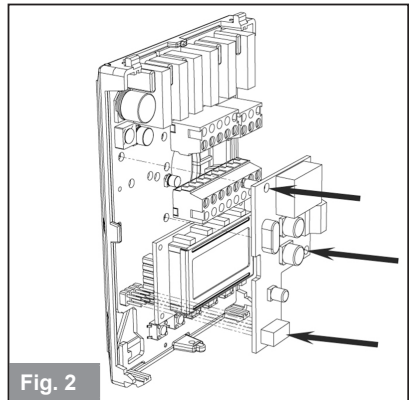

Fig. 2
2. Insert connector and the 2 retaining pins all at once by pressing on the 3 location simultaneously. (fig. 2).